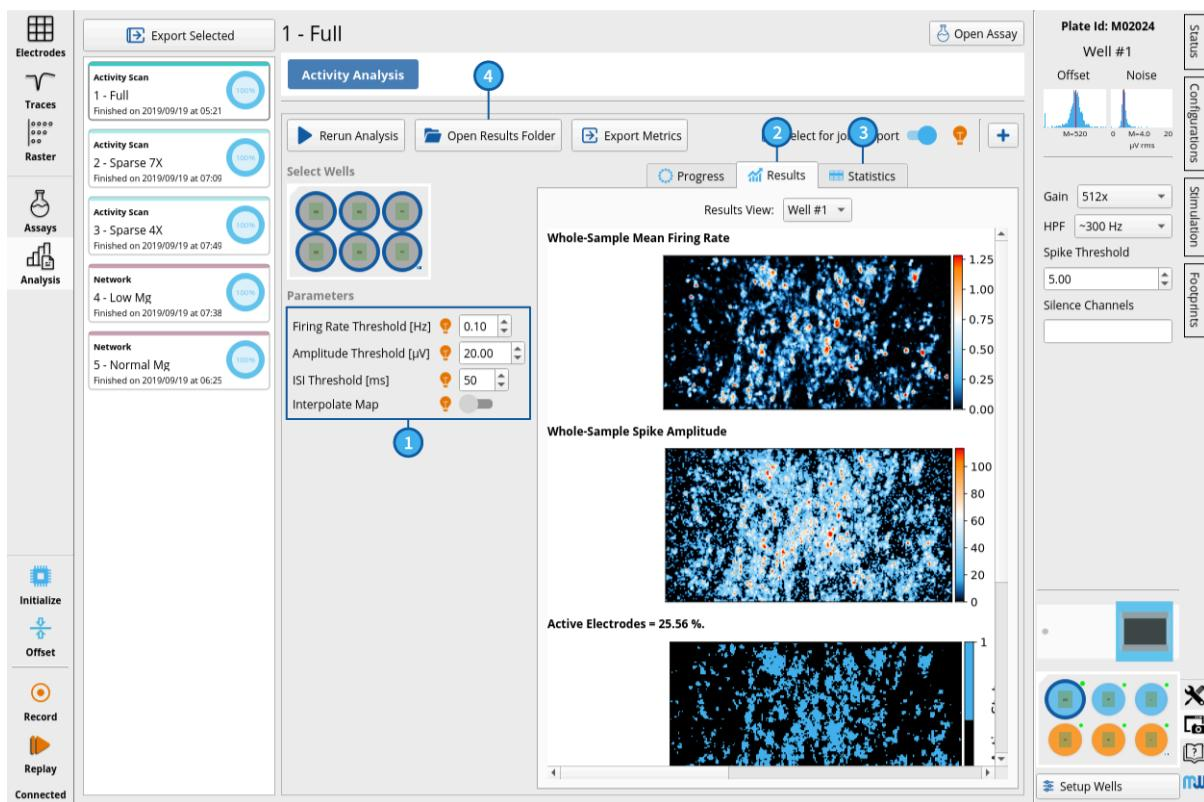

Figure 9.1. Activity Analysis Overview
After setting parameter values (Figure 9.1 (1)) and running the Activity Analysis, the results can be viewed in the **Results Tab** (Figure 9.1 (2)). In addition, a table of summary metrics from the analysis is shown in the **Statistics Tab** (Figure 9.1 (3)). The results figures and the statistics table are saved in PNG format in each well's Analysis Folder (Figure 9.1 (4)), and are further described in the section called "Analysis Results and Summary Statistics".
Relative to the results obtained with default parameter values (see Figure 9.1 and Table 9.1), when setting higher values for Firing Rate Threshold (e.g. 0.3 Hz) and Amplitude Threshold (e.g. 60 μ V), selection of active electrode is more restricted. A change in these two parameters generally affects: